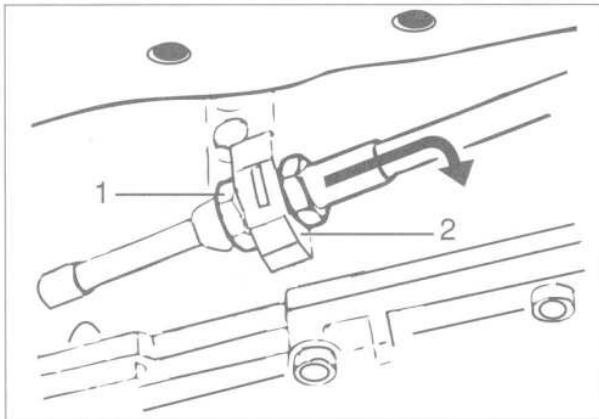

Fig. 13. Remove nut (1) from selector cable and slide cable out of bracket (2).
- Position selector lever in park. Loosen selector lever cable clamping nut on lever. Remove cable from bracket and slide cable out of selector lever. See Fig. 13.